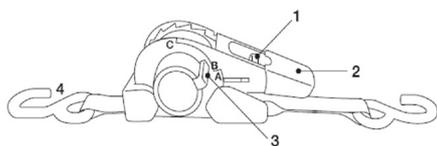
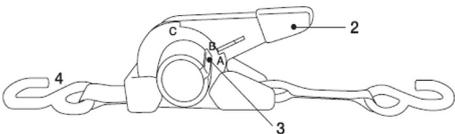

Fig. 1
Fig. 2
- Press the ratchet lock (1) and bring the ratchet handle (2) into position (A) (Fig. 1).
- Extend the lashing strap (4) to the desired length and secure the hooks (Fig. 1).
- Move the ratchet handle from position (B) to (C) and back to tension the strap.
- Move the ratchet handle to the home position (B) (Fig. 2).